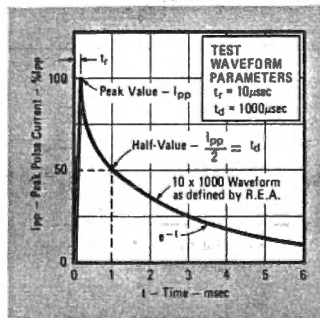

FIGURE 2 - Pulse Wave Form (10 x 1000)
IPP Peak Pulse Current - See Figure 2
Clamping Factor: The ratio of the actual V_C (Clamping Voltage) to the actual BV (Breakdown Voltage) as measured on a specific device. (See Figure 2, Page 1-1 for Test Pulse Wave Shapes.)
- Pulse Wave Form. Figure 2, Page 1-1